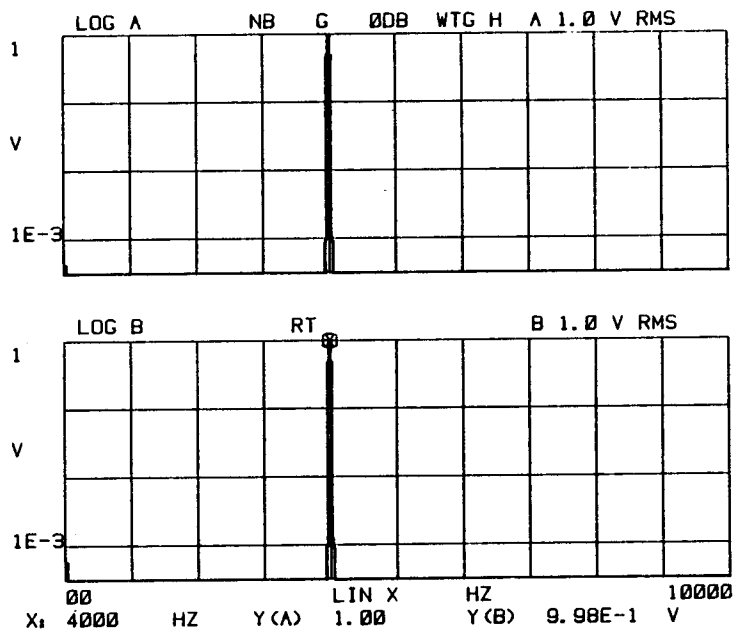

Figure 4-5. Initial Front Panel Display
- g. Bring the cursor to the peak of the waveform on the SPECT A display. The display should appear as shown in Figure 4-5. Observe the Y (A) and Y (B) display readouts. They should read from 9.7 E-1 to 1.03 Vrms.